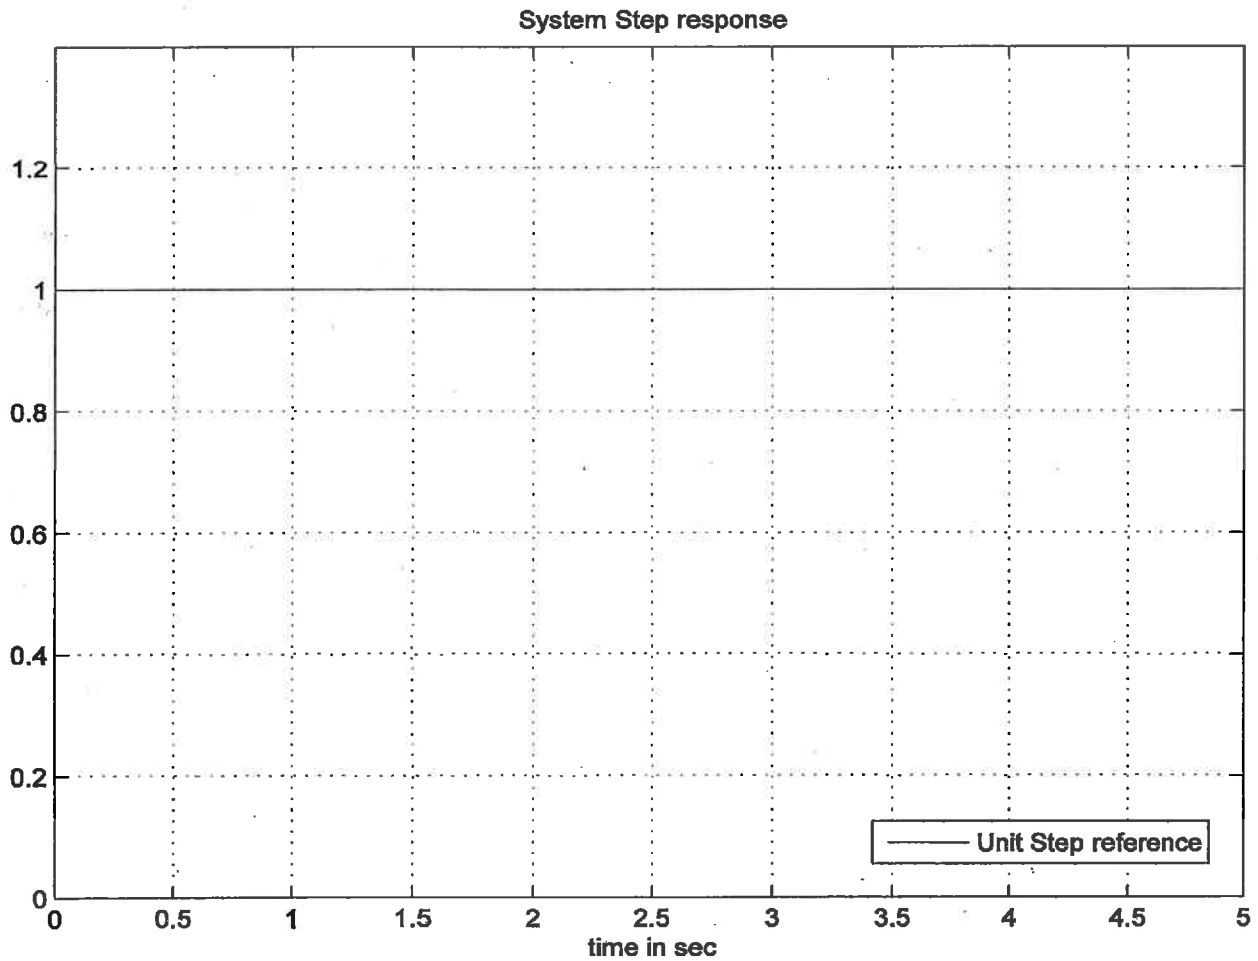

Figure Q5.2
uncompensated and the compensated system are shown in Figure Q5.2 - please note that based on Lead Controller characteristics, you should be able to recognize which trace corresponds to which response.
- 4) (5 marks) Based on Table Q5.2, plot approximate shapes of the uncompensated and compensated step responses of the system in the space provided in Figure Q5.2.